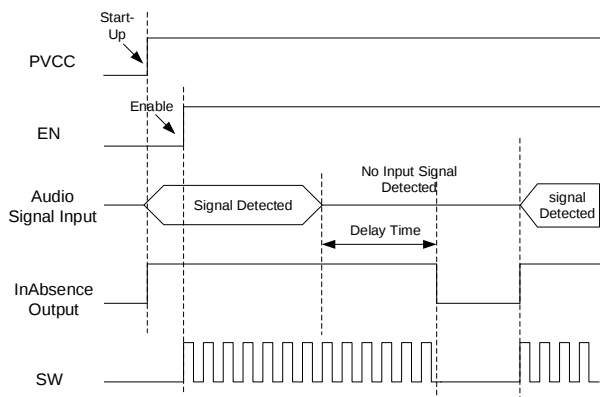

Figure 3: Enable On (Audio Signal Present)
- The input absence flag output stays high or is pulled high when an input signal is detected. The delay circuit is only activated when the input signal is absent. The MP7758 holds the output report for a delay time that can be adjusted by the CAP_D capacitor. Then the MP7758 turns off the all MOSFETs. The input absence output is pulled low until the input signal is detected again (see Figure 3).